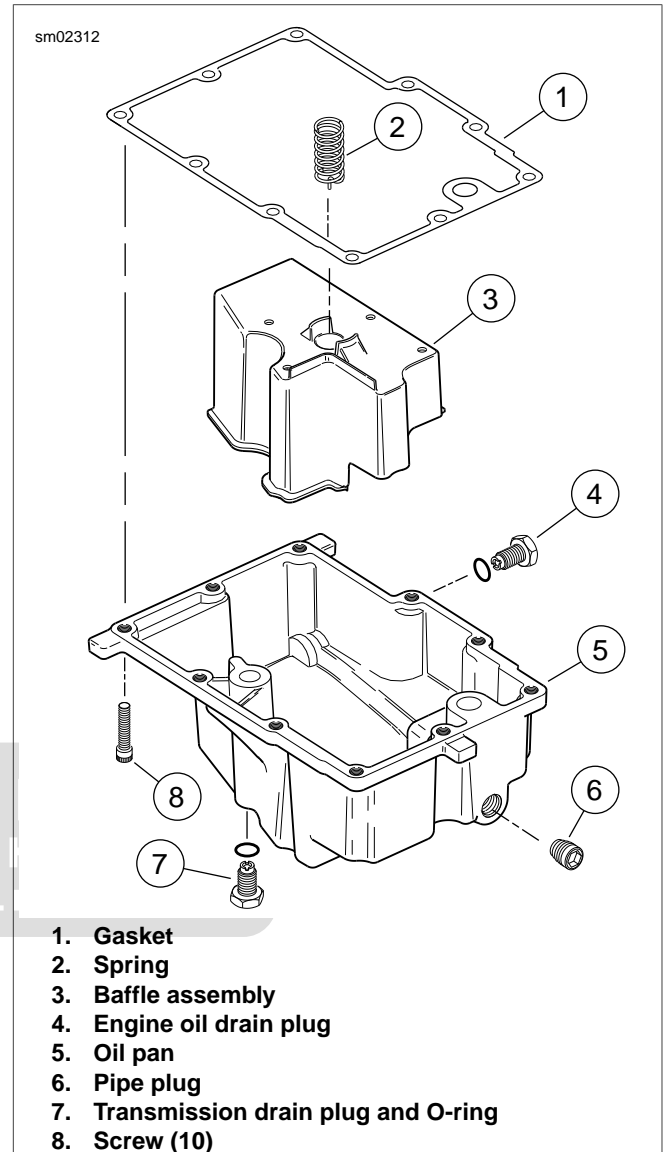

Figure 3-141. Oil Tank: Dyna Glide
2. See Figure 3-141. Drain fluids from oil pan.
- a. Remove engine oil drain plug (4), fill plug/dipstick and oil filter. Drain oil into suitable container. See 1.5 ENGINE OIL AND FILTER.
- b. Remove transmission drain plug (7). Drain transmission fluid into suitable container. See 1.11 TRANSMISSION LUBRICANT.
3. Remove ten screws (8) that secure the oil pan to the transmission housing.
4. Remove oil pan (5) and gasket (1). Discard gasket.
5. Remove baffle assembly (3) and spring (2) from oil pan.
2. See Figure 3-141. Insert baffle assembly (3) and spring (2) in oil pan.
3. Place **new** gasket (1) on oil pan.